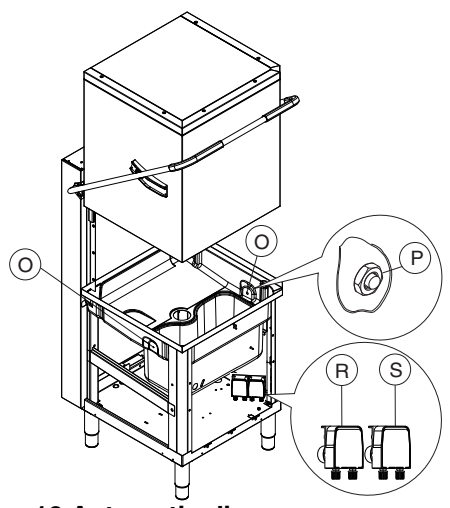

Figure 16 Automatic dispenser arrangement
1. Dishwasher with incorporated detergent dispenser (Figure 16).
2. Dishwashers with incorporated peristaltic rinse-aid dispenser (Figure 16).
Connections for automatic detergent dispenser (Figure 16)